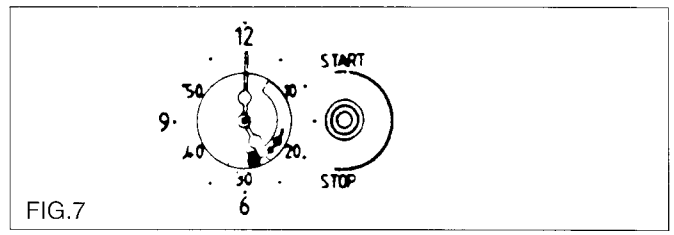

FIG.7
- iii) To set the length of cooking time, press the cooking hours button (🕒), while holding it down, depress the increase control (+) and the decrease control (-) until the required length of cooking time is displayed, e.g. 2 hrs 15 mins. Fig. 7.